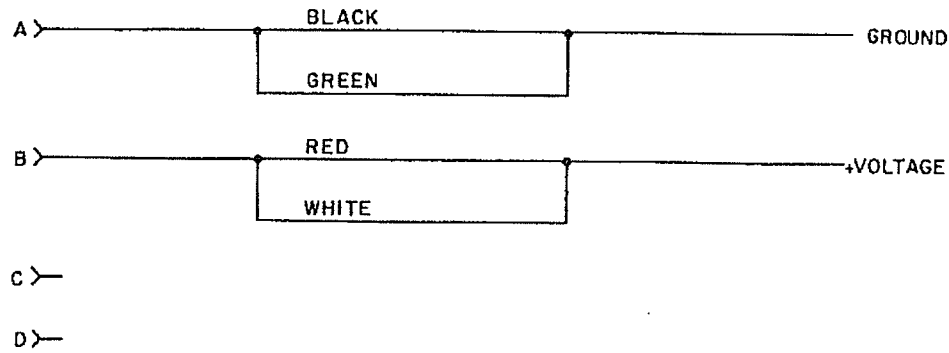

Figure 5-6. Cable Assembly CX-4720/VRC, Schematic Diagram
(11) Cable Assemblies. If any of the multiconductor cables (CX-4720/VRC, CX-4723/VRC or CX-2421T) is suspected to be defective, check the continuity using a multimeter. Figures 5-6, 5-7 and 5-8 are schematic diagrams for the cable assemblies.